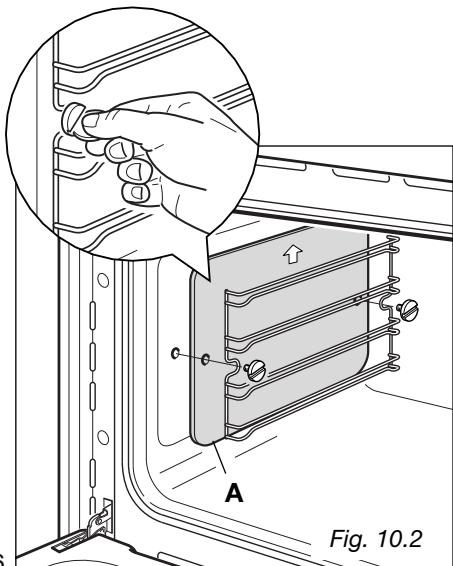

Fig. 10.2
- Assemble the wire racks to the oven walls using the 2 screws (Fig. 10.2).
- In the models with catalytic panels interpose the catalytic panels "A" with the arrow up (Fig. 10.2).